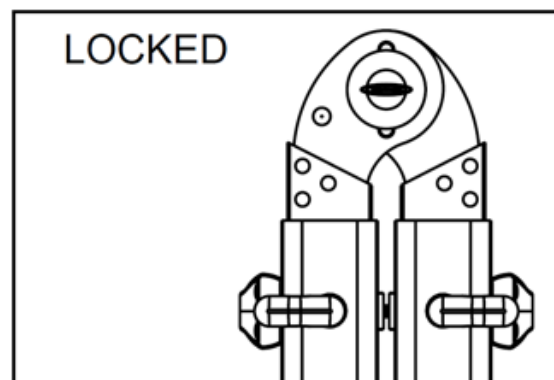

Figure 4
- 3) While holding the inner ladder section with one hand, lock the 4 “J” locks by rotating them into the locked position (See Figure 4).